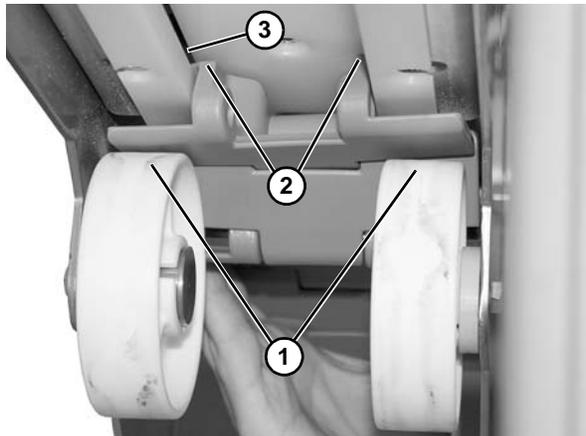

Figure 13
7. From underneath conveyor, on the drive side, feed belt over the top of the return rollers (**Figure 13, item 1**). Make sure that the belt tabs (**Figure 13, item 2**) are riding on top of the wear strips (**Figure 13, item 3**).